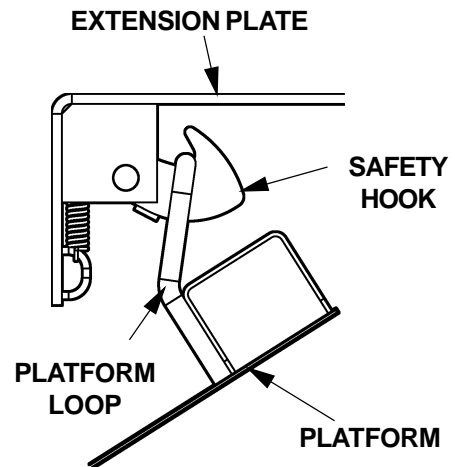

FIG. 9
2. Visually check if loop is fully engaged with the Safety Hook as shown in **FIG. 9**.